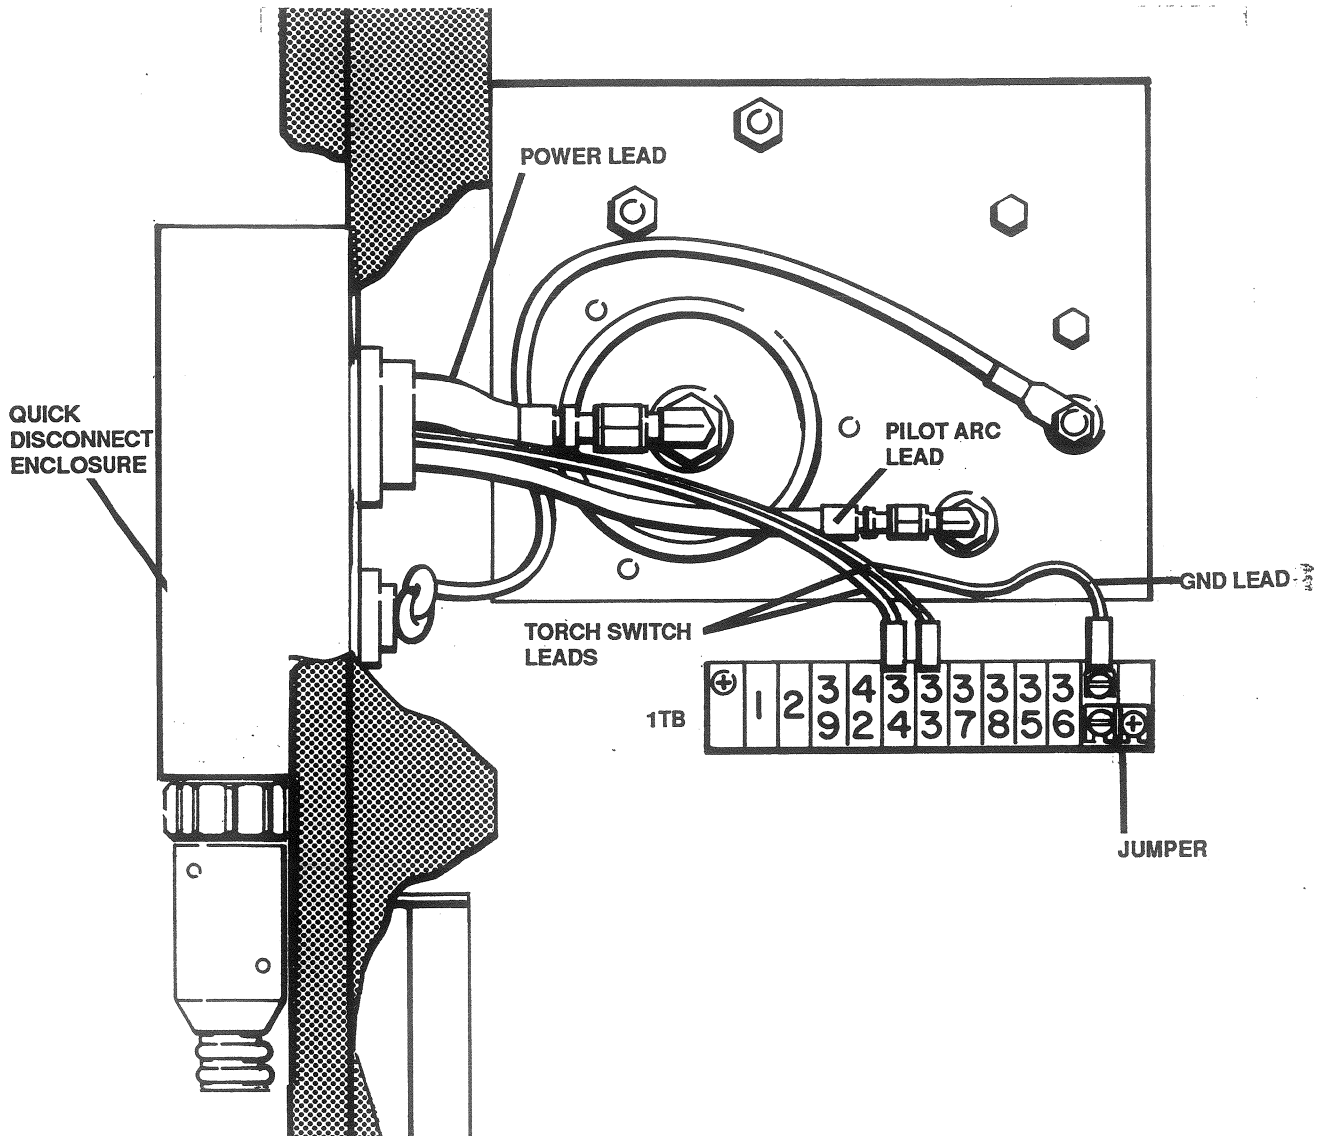

Figure 2 MAX100 Quick Disconnect Connections
3. Secure the quick disconnect enclosure to the rear panel with the four (4) screws and kepnuts.
4. Connect the power lead and pilot arc lead as shown in Figure 2.
5. Connect the GND lead to 1TB as shown. Complete the ground connection by loosening the two (2) screws on 1TB as shown and install the jumper with open ends positioned down. Tighten both screws. Ensure that a good ground to MAX100 frame has been achieved.